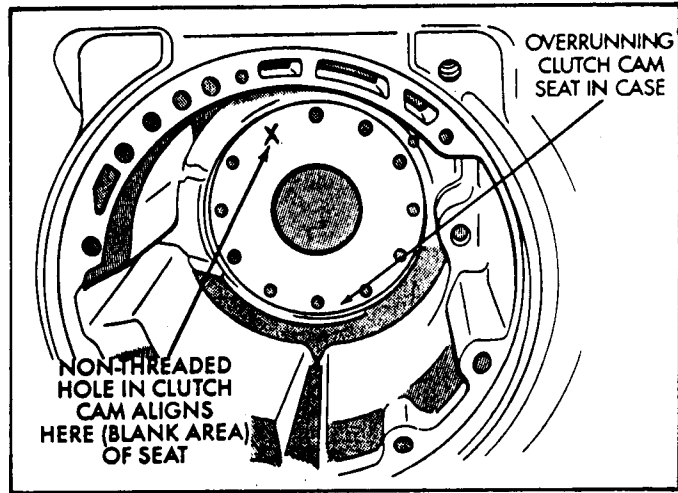

Figure 35
11. This hole **MUST** align with blank area, marked with an "X" as shown in Figure 35.